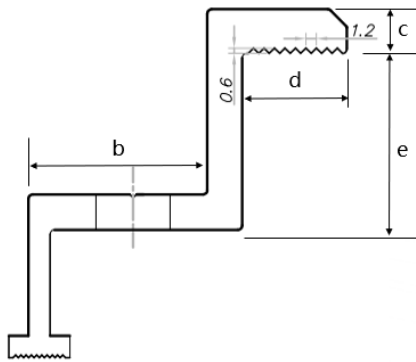

Fig. 8 Cross section diagram of fringe clamp
- ⑦ To prevent modules from coming off the fixed device after installation, it is suggested to choose fringe and mid clamps and make contact with the A side of the frame with groove patterns. Suggest to have 9 patterns with a space between 2 adjacent patterns of 1.2mm and a depth of 0.6mm, as shown in figure 8.